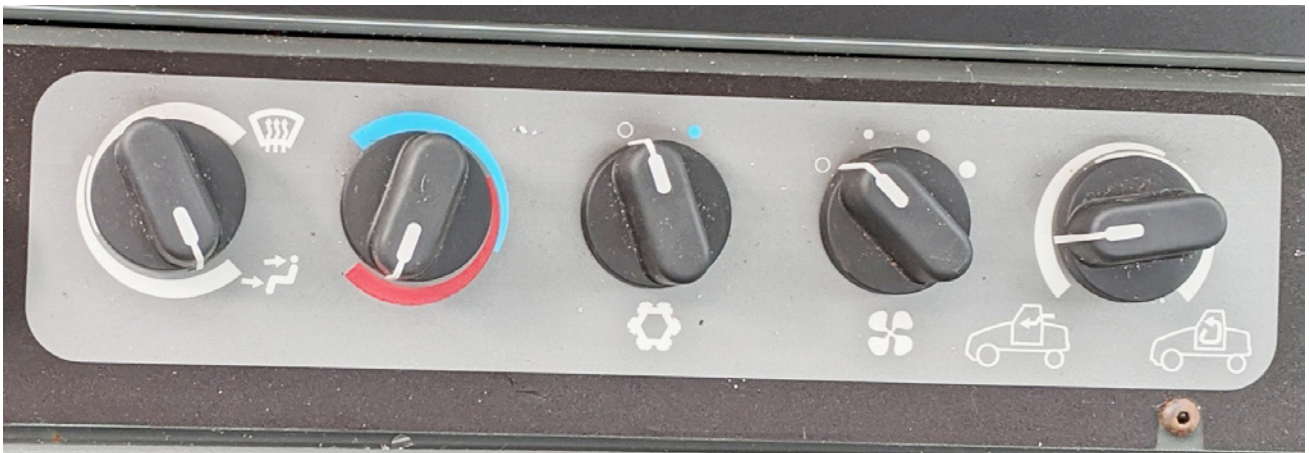

Fig. 33: Air Conditioning Controls
The sweeper air conditioning is controlled by the air conditioning (AC) switch, blower speed switch, and the HVAC relay. See Fig. 33: Air Conditioning Controls. When the ignition switch is placed in the ON position, battery voltage routes from the ignition switch to the switched power relay, activating the relay. See Fig. 108: Ignition Switch Circuit on page 111 and Fig. 243: Switched Power Circuit on page 215. The battery voltage is routed from the switched power relay to fuse B7 through fuse B7 (10A) to one side of the HVAC relay coil terminal 86. The relay grounds at terminal 85. The battery voltage at terminal 86 and ground circuit at terminal 85 energize the relay. Battery voltage is available at the relay from switched power circuit and fuse A6 (40A) to the HVAC relay terminal 30. When energized, the battery voltage is routed from the HVAC relay terminal 30, through the relay and terminal 87, to the blower speed switch terminal (C) CM-T10. The battery voltage is routed through the blower speed switch to the blower motor. The position of the switch determines the power routed to the blower motor. Each switch position causes circuit resistance to deliver a specific power level to the blower motor. The circuit indicates that switch position CM-T11-H delivers battery voltage to the blower motor (B), providing high speed motor rotation. The switch medium position CM-T12-M delivers enough power to the blower motor (A) for medium blower speed and position CM-T13-L delivers power to the blower motor (C) for low blower speed operation.